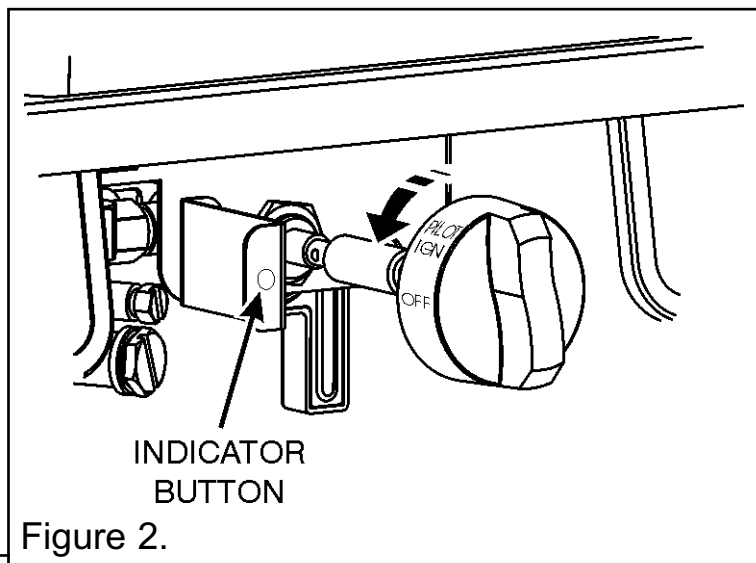
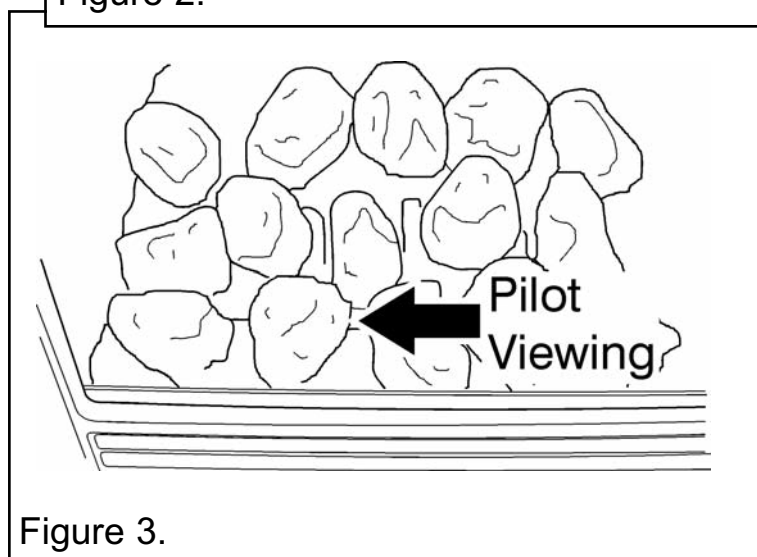

Figure 2.
Figure 3.
- Depress the control knob and rotate it SLOWLY anticlockwise to the pilot ignition position (See figure 2). A 'click' will be heard as the integral piezo operates. A flame should appear at the pilot. The pilot can be seen by looking through the gap in the fuel effect (See figure 3). Keep the control knob depressed and hold the pilot ignition position for five seconds. When the control knob is released the pilot flame should remain lit. If a flame does not appear at the pilot then turn the control knob clockwise to the 'OFF' position and repeat the above.